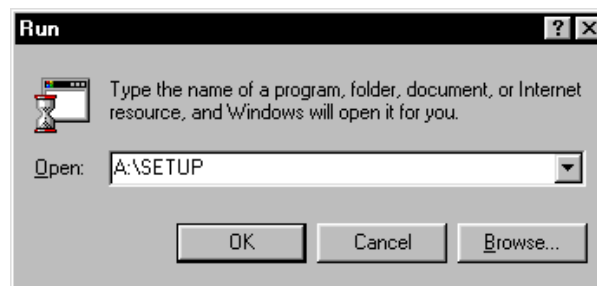

Fig. 8-2
3. When the RUN display appears, as in Fig. 8-2, type in A:\SETUP and click on OK.